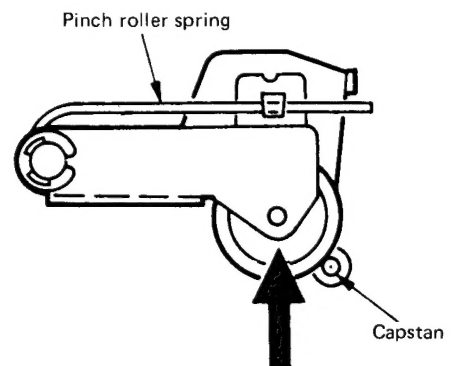

Fig. 12
- 1) Position the mechanism shown in Fig. 12 with the motor side down, enter the recorder into the playback mode, and hang a tension gauge on the protrusion part of the pinch roller arm shown in Fig. 12. Next, confirm that when slowly pulling the tension gauge, the pinch roller stops rotating in the range of 450-550 g.